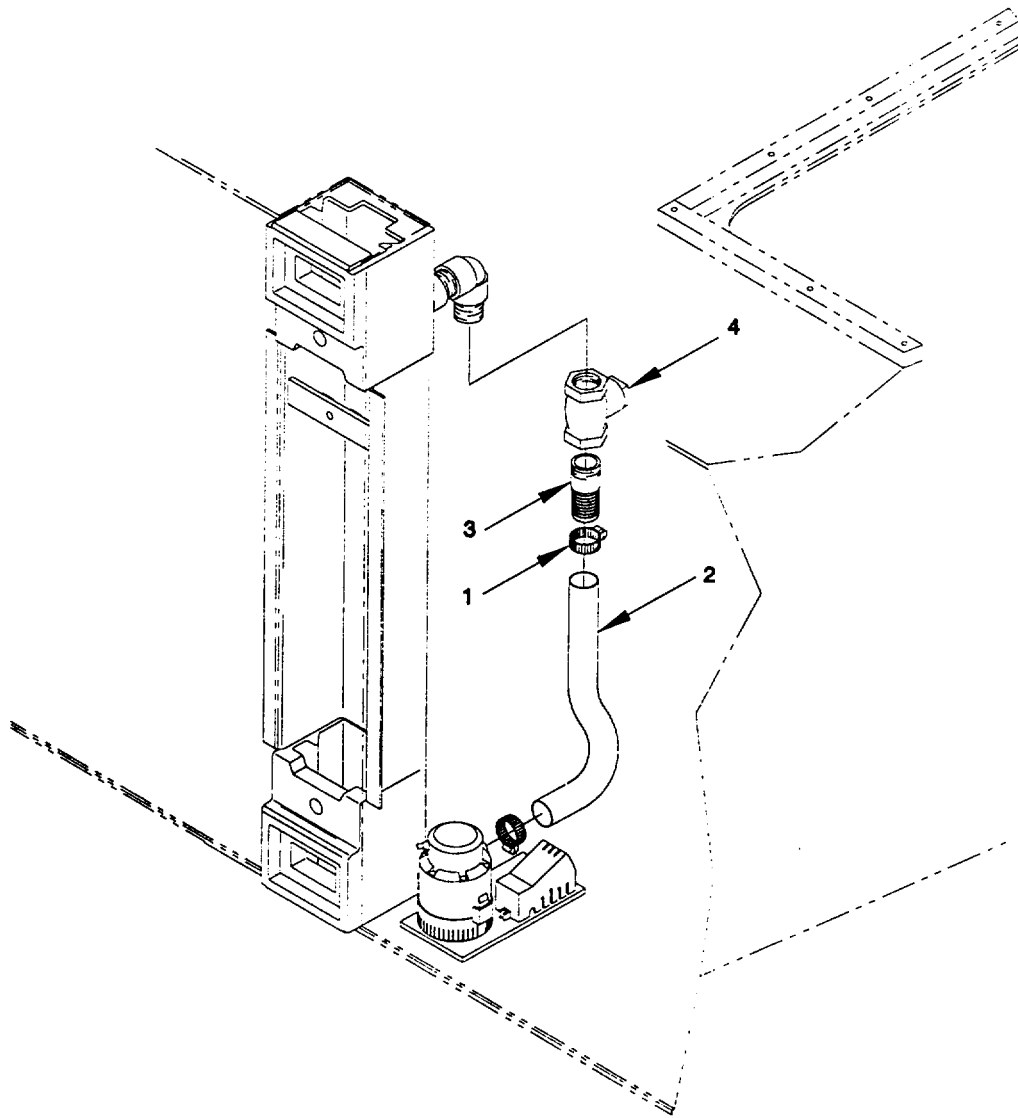

Figure 2-30. Check Valve, Bilge. Remove/Install
a. *Remove.* (figure 2-30)
- (1) Deenergize electrical power to bilge pumps and tag OUT OF SERVICE.
- (2) Remove hose clamp (1) securing hose (2) to nipple (3).
- (3) Remove hose (2) from nipple (3).
- (4) Remove nipple (3) from check valve (4).
- (5) Remove check valve (4).
b. *Install.* (figure 2-30)
- (1) Apply pipe thread sealant to pipe threads on check valve (4) and nipple (3).
- (2) Install new check valve (4).
- (3) Install nipple (3) on check valve (4).
- (4) Connect hose (2) to nipple (3). Secure with hose clamp (1).
- (5) Test by operating bilge pump with water to check for leaks in hose or at locations of clamps and pipe joints.
- (6) Once performing normally, energize the pumps and remove OUT OF SERVICE tags.